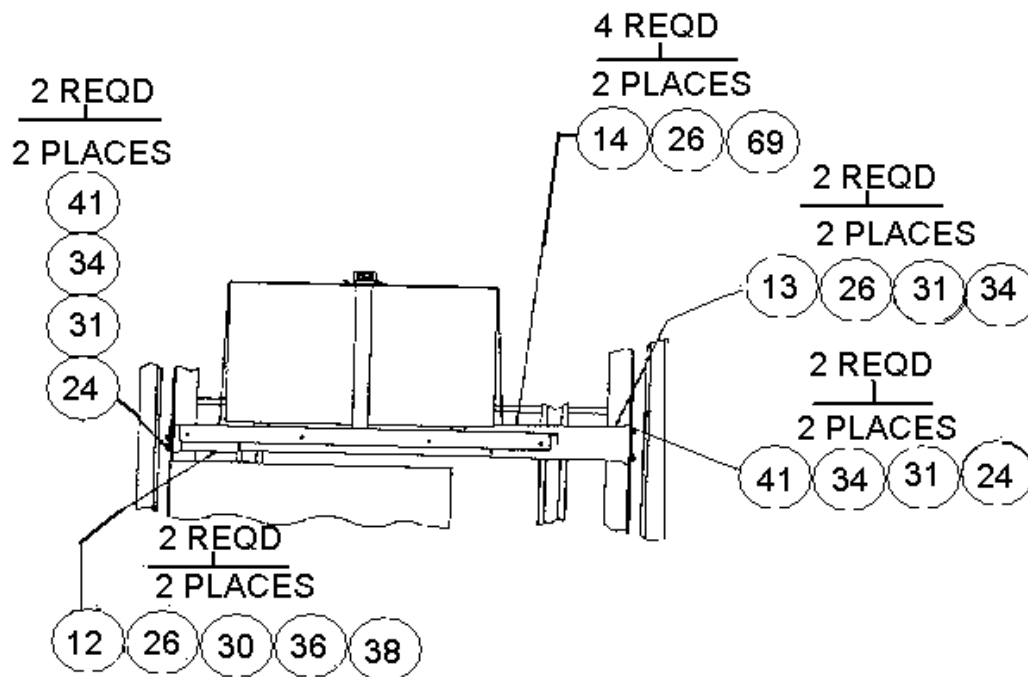

FIGURE 2. UPS SHELF MOUNTED ON SLIDES
14. Reinstall blower removed in step 9. Slide blower B1 Into cabinet. While holding blower, screw in the four (4) securing screws.
16. Install chassis slides (62828-90052-3), (14) . Refer to figure 2.
17. Install slide mounting brackets (62828-90220-1), (12) , and (62828-90220-2), with appropriate hardware as shown (13) in Figure 2.
18. Locate UPS shelf (62828-40135-20) and attach to slides as shown in figure 2 using appropriate hardware.